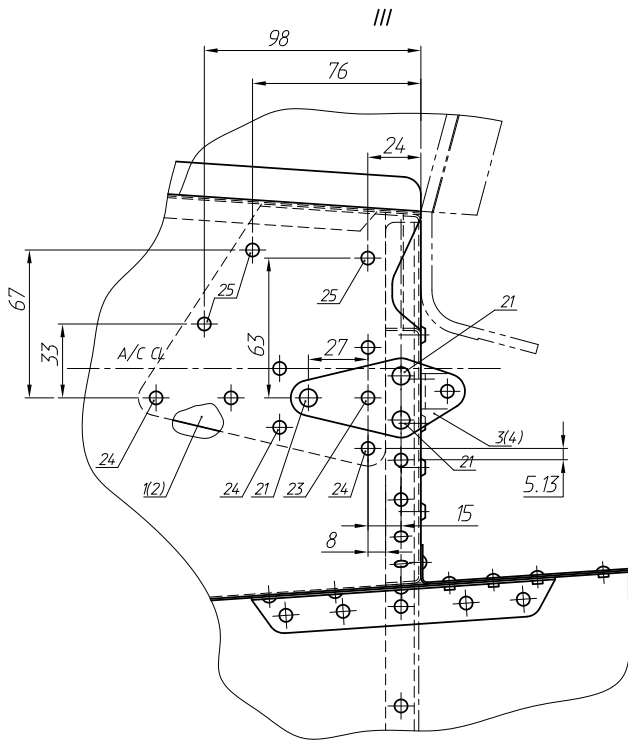

Fig. 11.
1.1. Mark and drill Ø3mm hole for the rivet No. 23 in the stabilizer attachment plate No.3(4) (see fig. 11).
2.2. Remove the stabilizer attachment plate (see fig. 11 No.3(4)) by drilling out the rivets No.21 – 6 pcs. with Ø4mm drill.
- 3.7. Mark and drill the $\varnothing 3.1$ mm holes for the rivets No.25 (see fig. 11). Insert Clico fasteners.
- 3.11. Fix with Clico fasteners the doubler No.1(2) inside the tail boom and stabilizer attachment plate No.3(4) (see fig. 11), set percussion rivets No.21 – 6 pcs., No.23 – 2 pcs., No.24 – 12 pcs., No.25 – 6 pcs.